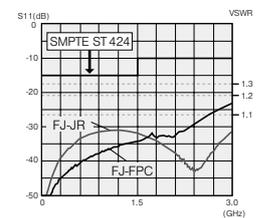

Fig.1 Return loss for FJ-FPC and FJ-JR
- VSWR of 1.1 or less up to 2 GHz. <Fig. 1>